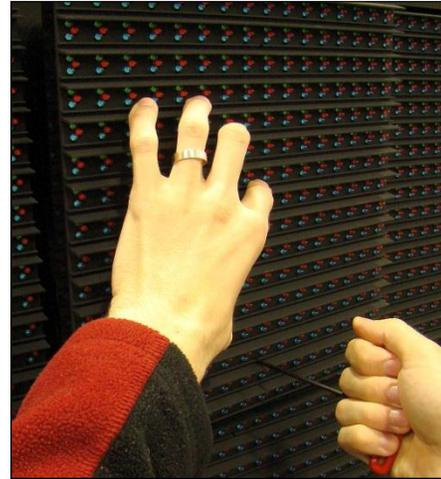

Figure 24: Removing a Module
2. Locate the latch access fasteners on the module. Refer to **Figure 24**. Locate one centered near the top, and the other centered near the bottom.